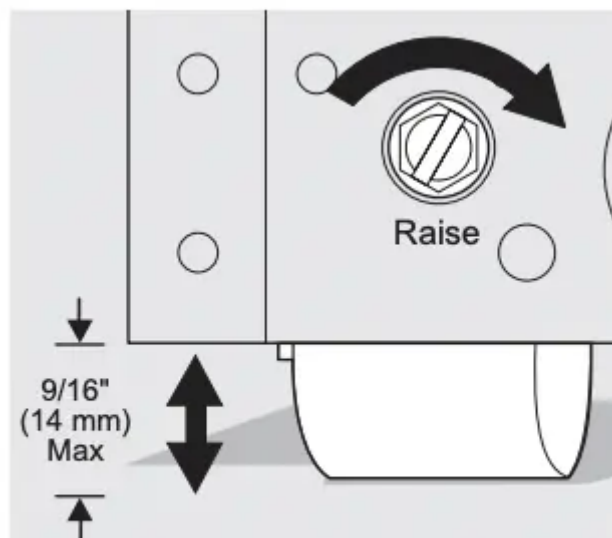

Figure 2
2. Use a flat-blade screwdriver or $\frac{3}{8}$ inch socket wrench to raise or lower the front rollers (Figure 2). Do not raise the cabinet more than $\frac{9}{16}$ inch.